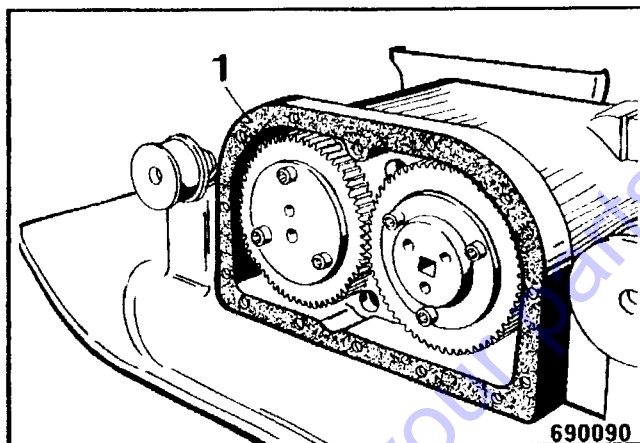

Fig. 11
- Cover the sealing surface 1 (Fig. 11) of the housing cover with Loctite 573 or Omnifit FD10.